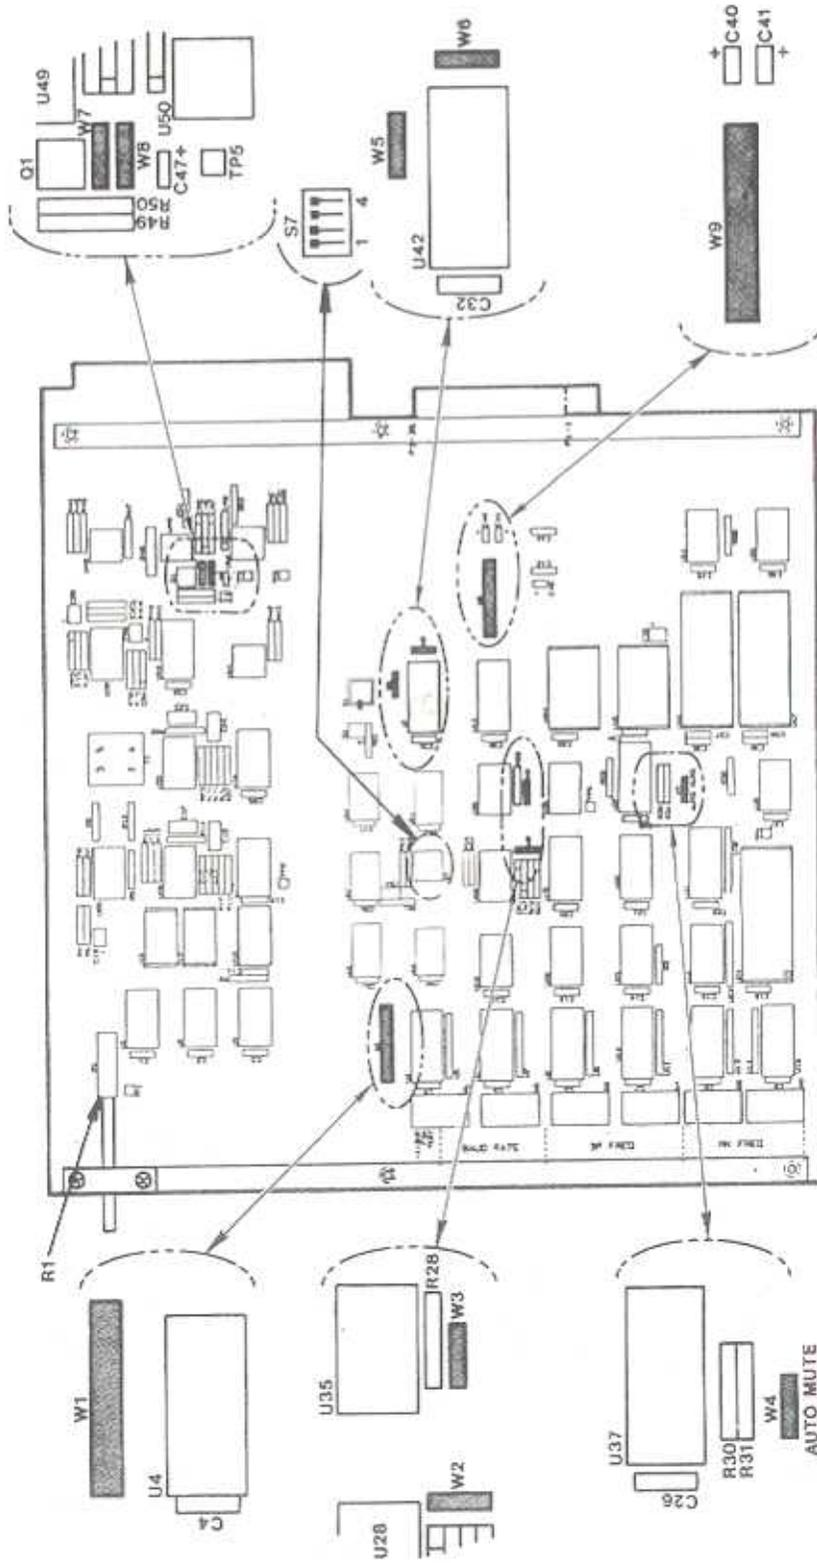

Figure 2-10. Expanded View of Modulator Board Showing Locations of Jumpers and Switches
2.7.3.1 AUTO-MUTE TRANSITION DELAY SWITCH. Switch S7 (Figure 2-10) is a four-position switch that allows an operator to select a specified time delay prior to going into the auto-mute and keyline enable condition after a loss of data transitions. Switch slides 3 and 4 provide control data to the down-counter, and slides 1 and 2 provide a count to the down-counter's C/D input. Either slide 1 or 2 must be selected (to enable auto-mute and keyline output), but both may not be selected at the same time. To select the auto-mute thresholds, set program switch S7 as indicated below. Thresholds are specified in seconds.
2.7.3.2 PWB JUMPERS. The following jumpers, shown in Figure 2-10, will yield the indicated results: